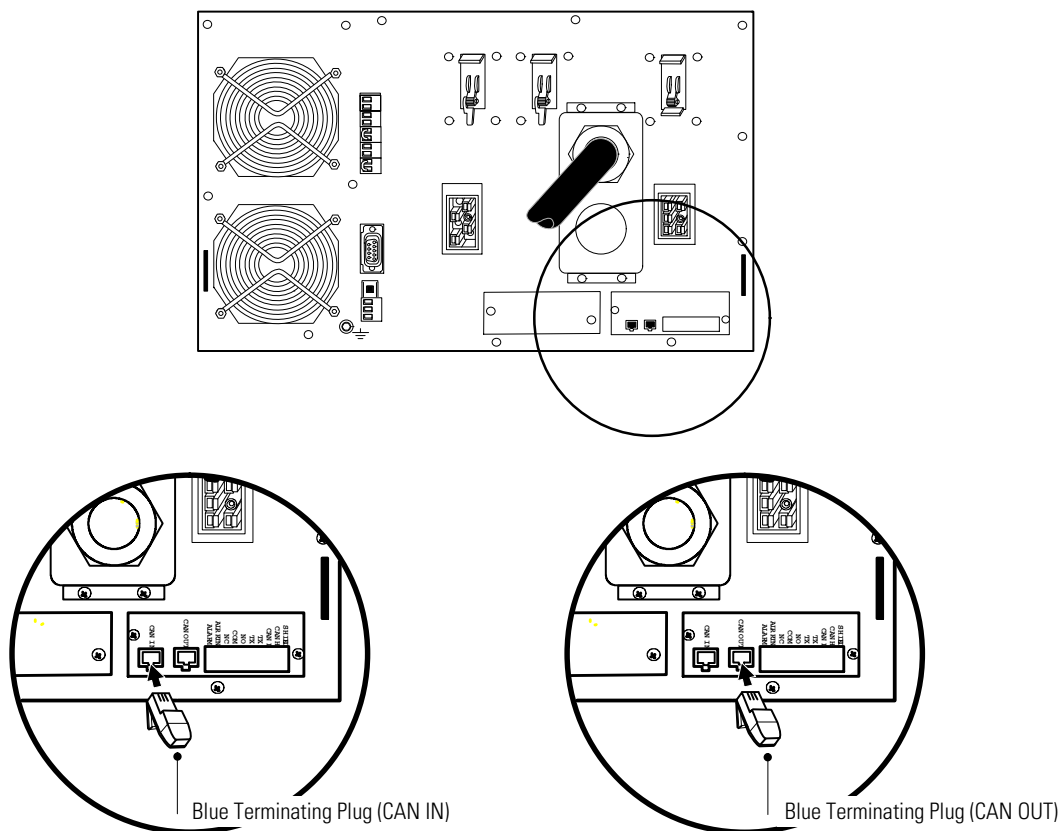

Figure 65. Installing the Blue Terminating Plug (Single Parallel-Ready UPS Installation)
- If you plan to install the UPS as the first UPS in the configuration, install one of the supplied blue terminating plugs (see Figure 65) into the CAN IN port on the UPS. Retain the second blue terminating plug for future use.
- If you plan to install the UPS as the last UPS in the configuration, install one of the supplied blue terminating plugs (see Figure 65) into the CAN OUT port on the UPS. Retain the second blue terminating plug for future use.